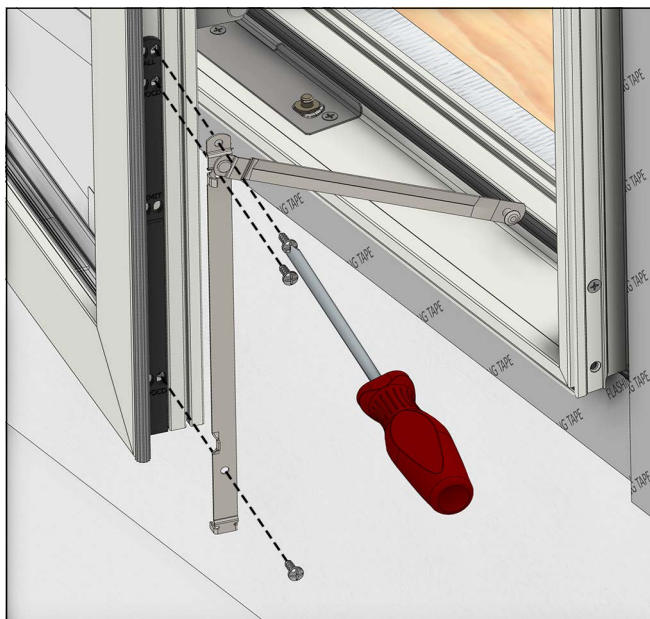

Figure 7
1. On the sash, attach the WOCD sash arm with the three #8 x 1/2" screws provided. Use a #2 Phillips screwdriver to tighten. DO NOT OVERTIGHTEN. See Figure 7.